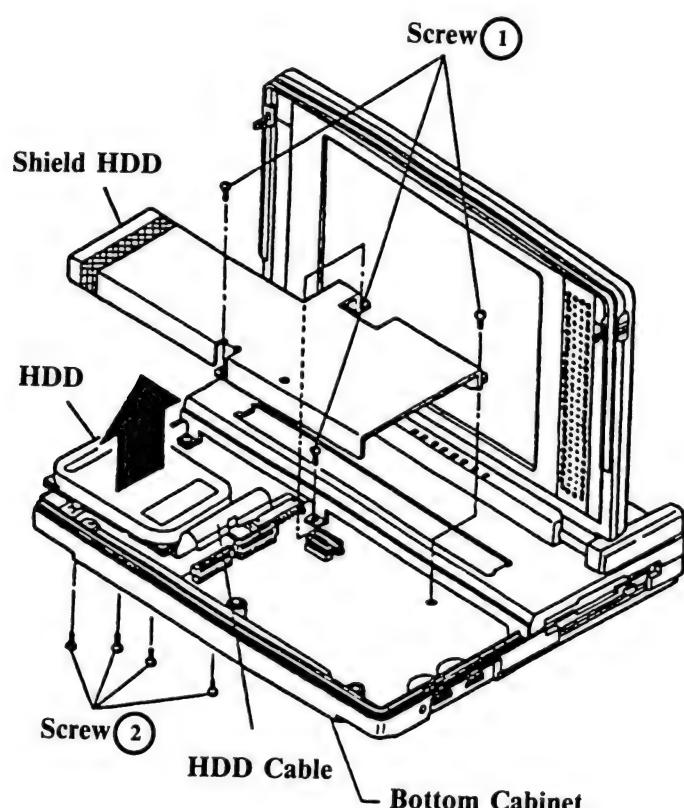

Figure 3.3
Remove the three screws ① which hold Shield HDD in place. (Figure 3.3)